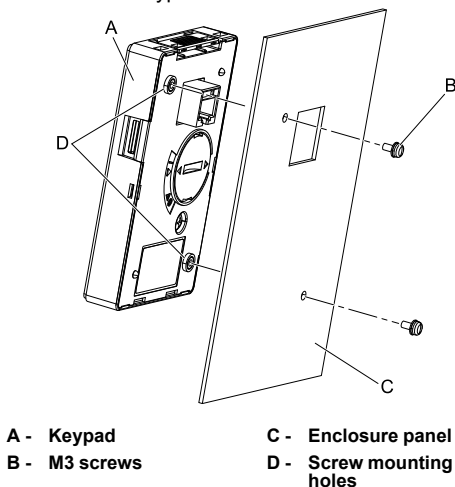

Figure 5.5 External/Face-Mount Installation
2. Use M3 screws (6 mm (0.24 in) depth phillips pan head) to attach the keypad from the inside as shown in Figure 5.5.